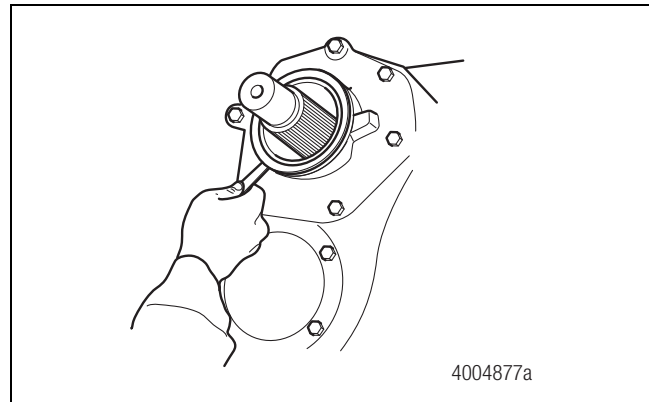

Figure 10
6. Use a feeler gauge to check the seal gap. The seal is correctly installed if the gap is less than 0.005-inch (0.127 mm) around the circumference of the seal flange. Figure 10.